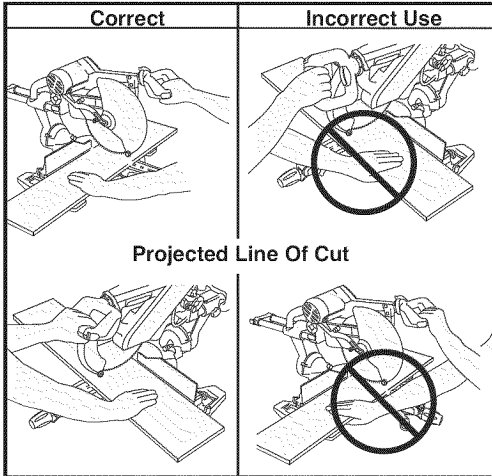

Figure 17. Hand Positions
**WARNING** Position your body and hands properly to make cutting easier and safer. Observe the following instructions (Figure 17).